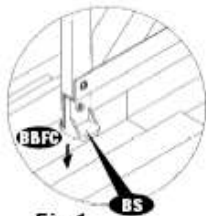
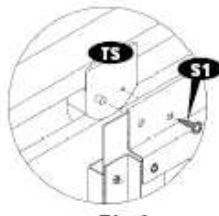

Fig.1
Fig.2
11. Assemble the bottom slider (BS) to the door panel bottom side at both edge with (S3) bolt and nut with washers.
12. Fix the door handle (DH) with door panel from front side with (S3) bolt and nut.
13. Slide the door panel assembly into the base bar front (BBFC) & (ECC). Make sure the bottom slider (BS) should slide inside the base bar front and entrance taper channel. See fig.1. Fix the door panel top to the top slider (TS) with (S1) screws. See fig. 2 & 3.